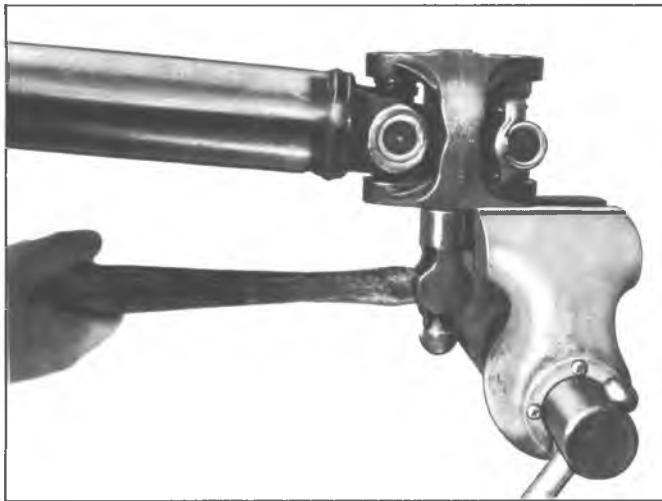

Fig. 31—Bearing Cup Removal
4. Once the bearing cup protrudes  $3/8"$ , release vice. Grasp protruding portion of cup in vice and strike center yoke as shown in Figure 31 until cup is removed. Remove cup seal by prying off with a thin screwdriver.